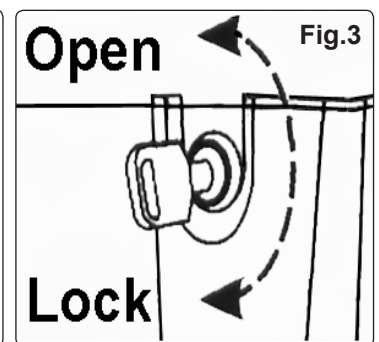
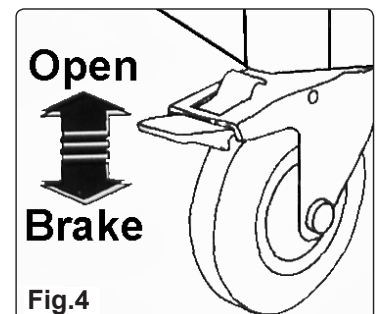

Fig.3
Fig.4
- 3.2 When moving the workbench, ensure that the drawers are closed and locked (fig.3) to prevent accidental opening, release the brakes as shown in fig.4 and move the workbench using the handles and maintain full control. When the workbench has been moved to the required location, lock the brakes.